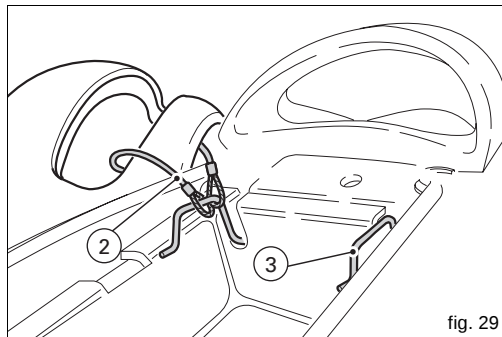

fig. 29
Fit the ignition key into the lock (4) and turn the key clockwise about 1/4 turn until the rear end of the seat lifts up. Pull the seat backwards to slide it off its front holders (1). On the rear end of the compartment underneath the seat, there is the helmet fastening cable (2) (see page 63). Insert the cable into the helmet and insert the ends of the cable into one of the two hooks (3). Leave the helmet hanging outside (fig. 29) and refit the seat.